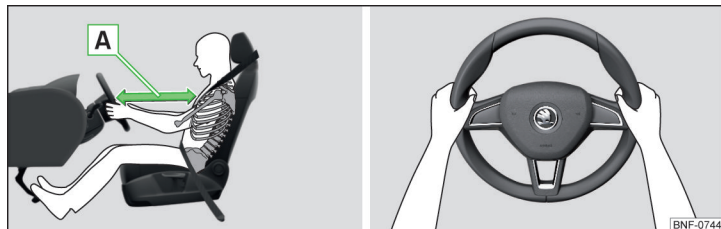

Fig. 4 Correct seated position for the driver / correct steering wheel position
- ✓ Adjust the driver's seat so that the pedals can be fully depressed with slightly bent legs and the distance between the steering wheel and your chest is at least 25 cm » Fig. 4 - A.
- When driving, hold the steering wheel with both hands firmly on the outer edge in the “9 o'clock” and “3 o'clock” position » Fig. 4. Never hold the steering wheel in the “12 o'clock” position or in any other way (e.g. in the middle, inner edge of the steering wheel or similar). Otherwise, you could sustain serious injury to the arms, hands and head if the airbag is activated.